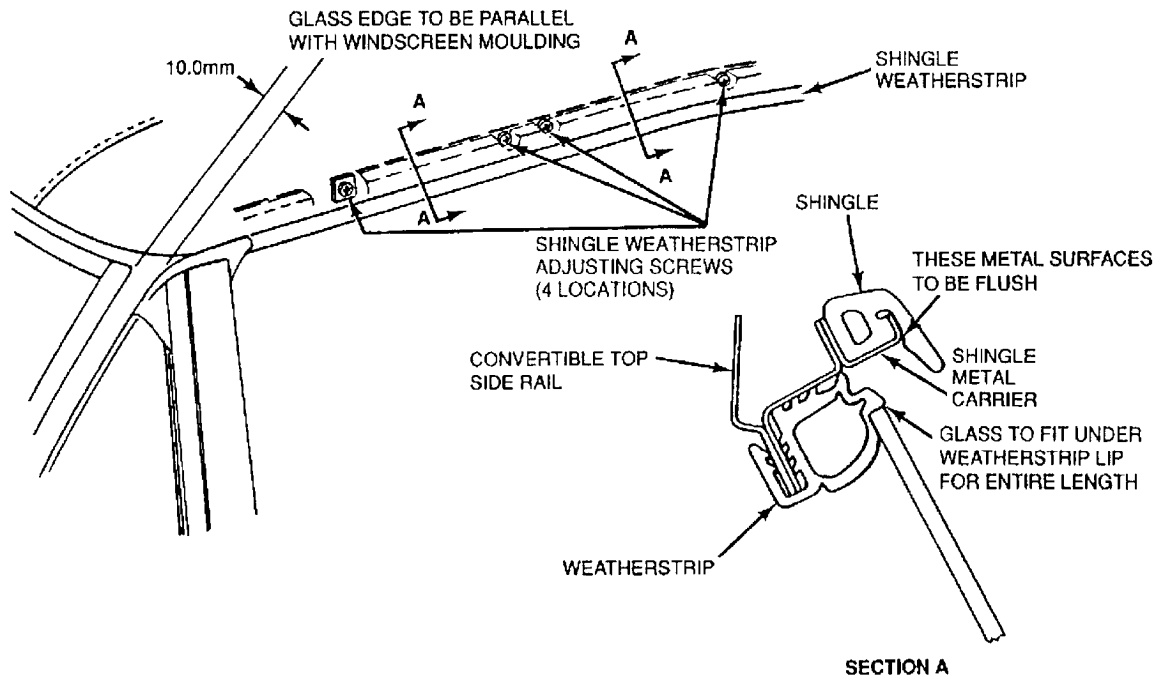

Fig. 2: Door Glass Alignment
1) With the door closed and correctly aligned, check the leading edge of the quarter glass to be sure it is parallel to the 'A' pillar windshield molding, Figure 2. A gap of about 10 mm should exist between the glass and the molding. If alignment is required, proceed with Steps 2 through 6.
- 1) Make sure the upper edge of the window glass is seated under the lip of the weatherstrip when it is fully raised, Figure 2. If alignment is required, proceed with Steps 2 through 5.
- 4) Turn the adjuster screw, Figure 2, to achieve correct positioning of the glass under the lip of the weatherstrip.
- 1) Make sure the upper edge of the window glass is seated under the lip of the weatherstrip for the full length of the glass when it is fully raised, Figure 2. If it needs to be adjusted, proceed with Steps 2 through 7.
- 3) Remove the two (2) water seals from the door inner panel.
- 4) Working through the openings exposed, loosen the two (2) regulator slider-to-glass bolts.
The shingle weatherstrip is adjustable in the vertical plane. A correctly located shingle weatherstrip has its metal carrier flush with the lower edge of the convertible top side rail, Figure 2. Adjust the shingle weatherstrip as follows:
- 2) Install the door trim and mirror bezel, Figure 2.